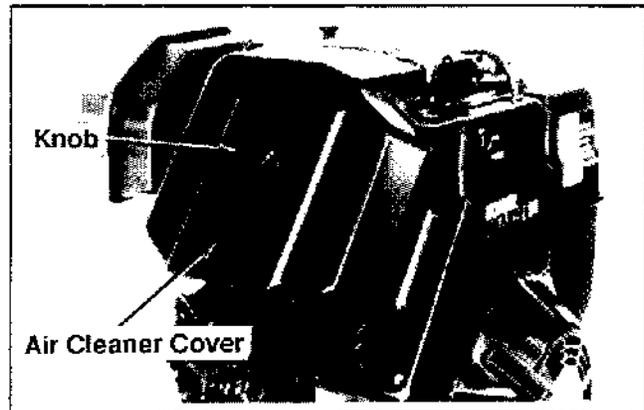

Figure 11-49. Installing Air Cleaner Cover.
4. Install the air cleaner cover and knob. See Figure 11-49.